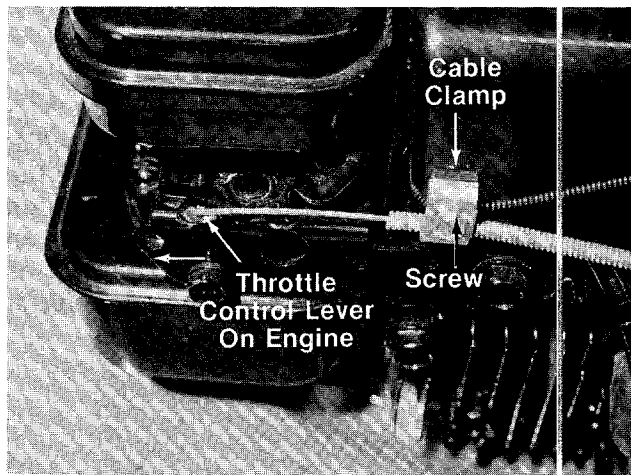

FIGURE 7.
10. Push the throttle control lever on the engine to the full open position (as far toward the outside of the unit as it will go) as shown in figure 7.
12. Loosen (do not remove) the screw on the cable clamp shown in figure 7. Slip the control casing under the clamp. With the throttle lever on the engine still in the full open position, tighten the screw to secure the throttle control cable.
1. Loosen, but do not remove, screw securing throttle control wire assembly at engine. See figure 7.